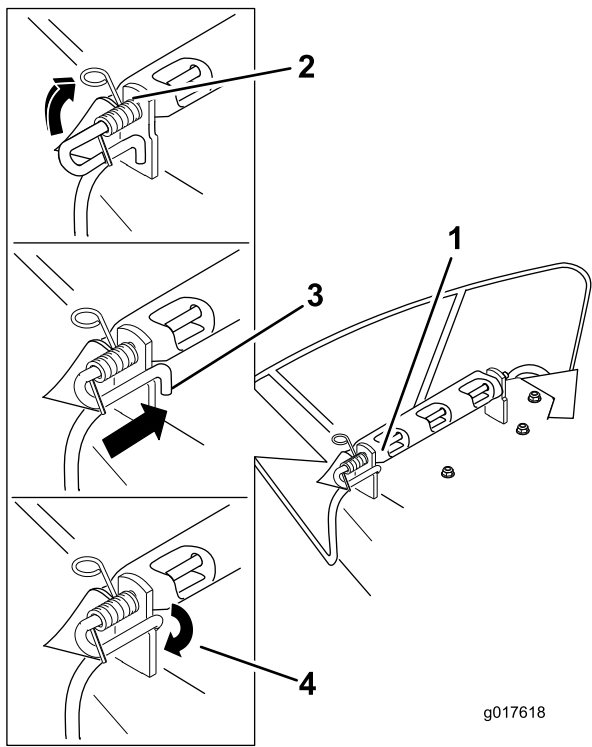

Figure 68
3. Position the new discharge deflector with the bracket ends between the welded brackets on the deck as shown in Figure 68.
6. Lift the loop end of the spring and place it into the notch on the deflector bracket (Figure 68).
7. Secure the rod and spring assembly by twisting it so the short end of the rod is placed behind the front bracket welded to the deck (Figure 68).